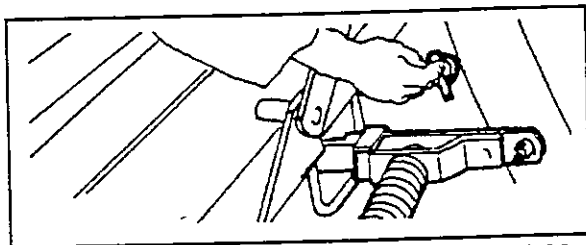

fig. 4-29
4. Loosen the main strut (fig. 4-29).